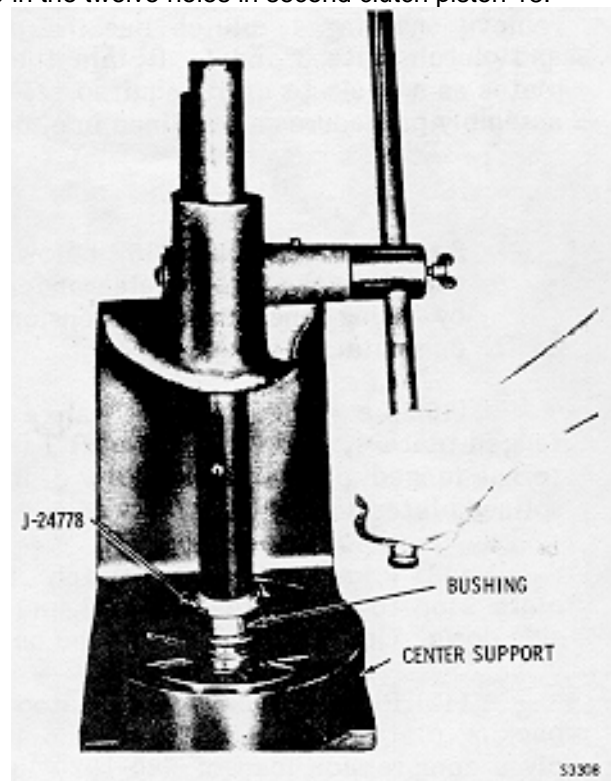

Fig. 6-51. Installing center support bushing
(1) Place center support 15 in a press, sealring grooves side up. Using bushing tool J-24778, install bushing 14 as shown in figure 6-51. Be sure the notch in bushing 14 is in proper alignment with the oil hole in support 15.